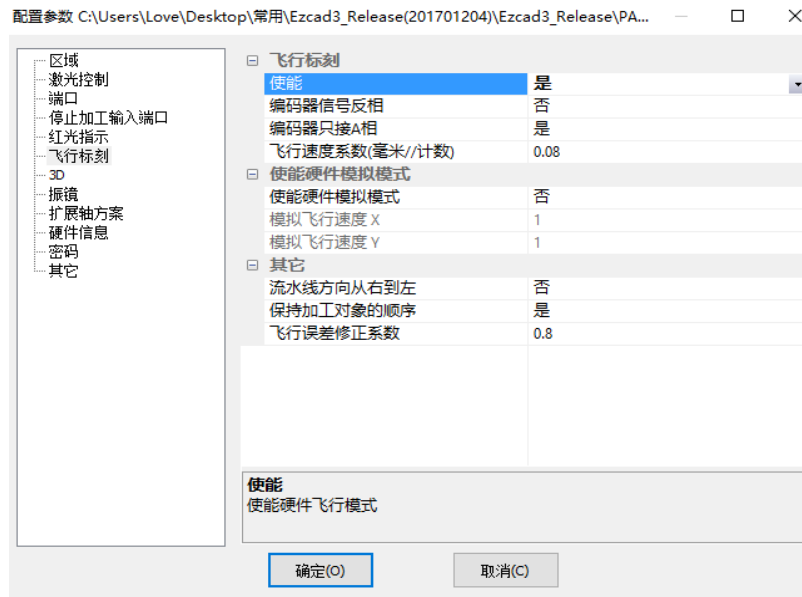

Figure 6.11 Flight Enable
1. Flight setup: Click on “Parameter F3---Flight carving” , as shown in Figure 6.11.